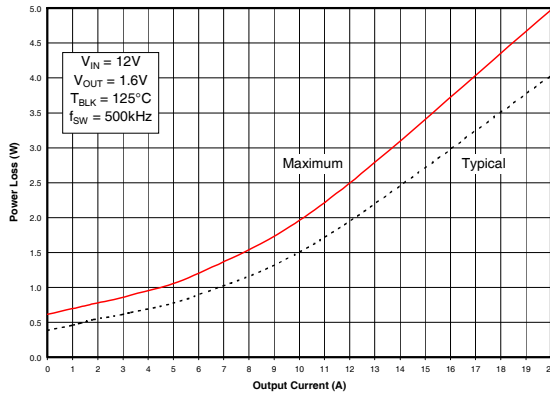
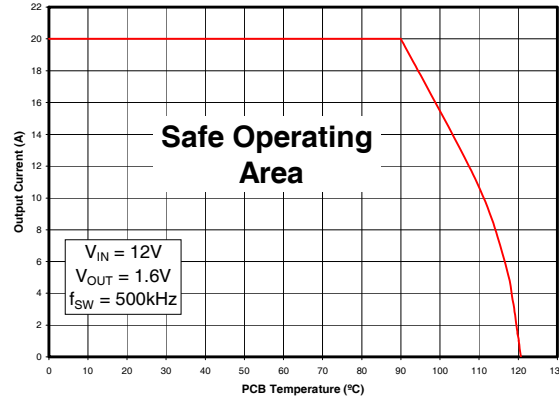
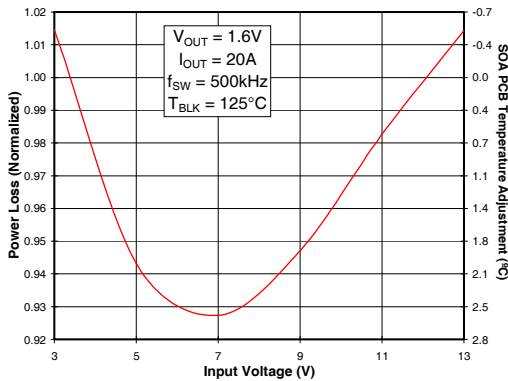

Fig 1. Power Loss vs. Current
Fig 2. Safe Operating Area (SOA) vs.  $T_{PCB}$  \*
Fig 3. Normalized Power Loss vs.  $V_{IN}$
To make adjustments to the power loss curves in Fig. 1, multiply the normalized value obtained from the curves in Figs. 3, 4, 5 or 6 by the value indicated on the power loss curve in Fig. 1. If multiple adjustments are required, multiply all of the normalized values together, then multiply that product by the value indicated on the power loss curve in Fig. 1. The resulting product is the final power loss based on all factors.
To make adjustments to the SOA curve in Fig. 2, determine the maximum allowed PCB temperature in Fig. 2 at the required operating current. Then, add the correction temperature from the normalized curves in Figs. 3, 4, 5 or 6 to find the final maximum allowable PCB temperature. When multiple adjustments are required, add all of the temperatures together, then add the sum to the PCB temperature indicated on the SOA graph to determine the final maximum allowable PCB temperature based on all factors.
- (Fig. 1) Maximum power loss = 5W
- (Fig. 3) Normalized power loss for input voltage  $\approx 0.925$
- (Fig. 2) SOA PCB Temperature = 90°C
- (Fig. 3) Normalized SOA PCB Temperature for input voltage  $\approx 2.6^\circ\text{C}$